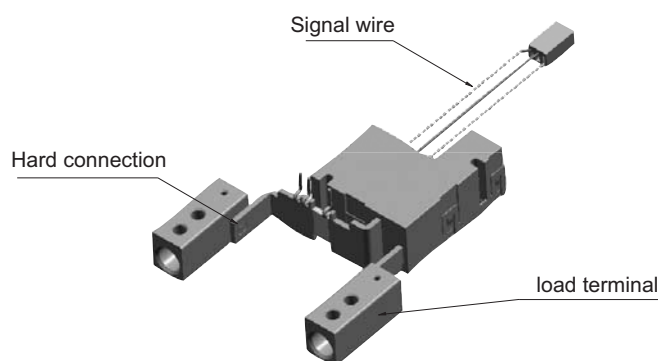

Figure 3
3.4 Others: The following picture shows our typical external connecting solutions. Seen in figure 3.